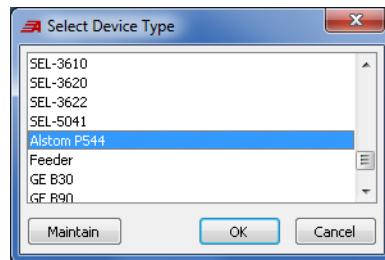

Figure 59 Add Alstom Device
Step 1. Right-click in the Connection Explorer and select **Add > Device**. As shown in *Figure 59*, select **Alstom P544**.